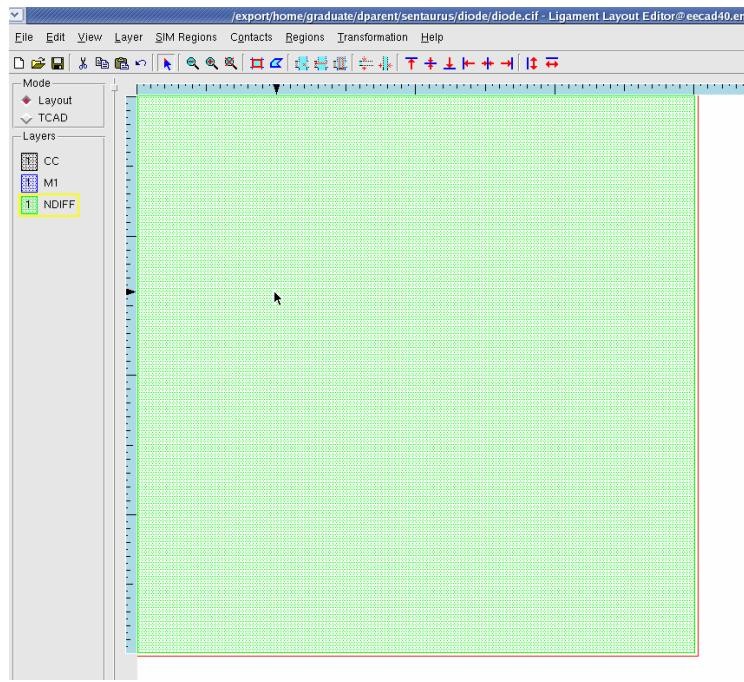

Figure 22: Results of setting the rectangle coordinates to  $(0,0)$ ,  $(0,4)$ ,  $(4,4)$  and  $(4,0)$ .
10. In a similar manner edit the lower right corner to be **4,0** (Figure 22).
11. In a similar manner edit the upper right corner to be **4,4** (Figure 22).